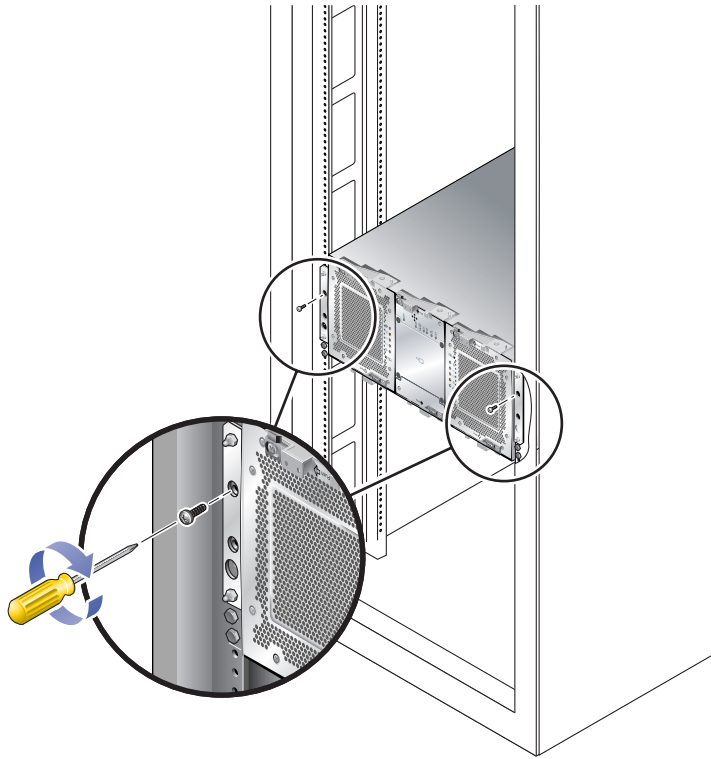

FIGURE 2-13 Securing the Tray to the Front of a Cabinet
- For the Sun StorEdge Expansion cabinet or for cabinets with 10-32 cabinet rail threads, use the #2 Phillips screwdriver to insert and tighten four 10-32 screws (two per side) to secure the tray to the front of the cabinet (FIGURE 2-13).